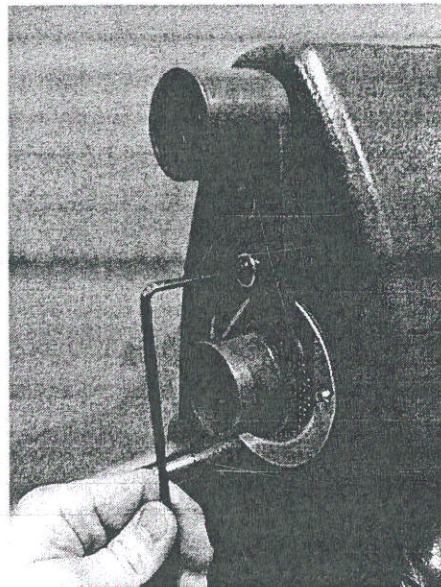

Figure 1
5. Adjust the Shaft Guard (521889) so that you can easily thread the second Button Head Screw (516027) with Washer (120392) into the Belt Cover (521888). (Figure 1) Do not